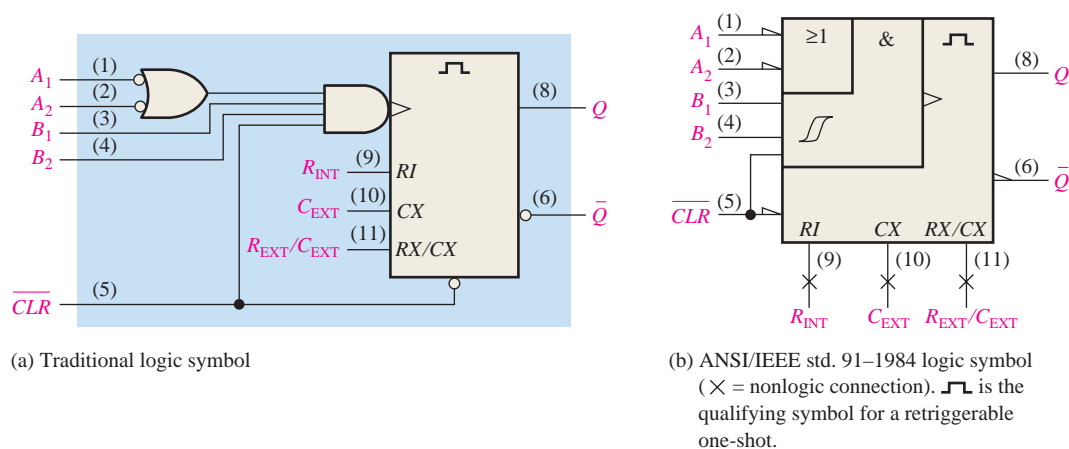

FIGURE 7–49 Logic symbol for the 74LS122 retriggerable one-shot.
A common requirement in digital systems is to store several bits of data from parallel lines simultaneously in a group of flip-flops. This operation is illustrated in Figure 7–35(a) using four flip-flops. Each of the four parallel data lines is connected to the D input of a flip-flop. The clock inputs of the flip-flops are connected together, so that each flip-flop is triggered by the same clock pulse. In this example, positive edge-triggered flip-flops are used, so the data on the D inputs are stored simultaneously by the flip-flops on the positive edge of the clock, as indicated in the timing diagram in Figure 7–35(b). Also, the asynchronous reset (R) inputs are connected to a common \overline{CLR} line, which initially resets all the flip-flops.
The 74121 is an example of a nonretriggerable IC one-shot. It has provisions for external R and C , as shown in Figure 7–47. The inputs labeled A_1 , A_2 , and B are gated trigger inputs. The R_{INT} input connects to a 2 k Ω internal timing resistor.
A typical pulse width of about 30 ns is produced when no external timing components are used and the internal timing resistor (R_{INT}) is connected to V_{CC} , as shown in Figure 7–48(a). The pulse width can be set anywhere between about 30 ns and 28 s by the use of external components. Figure 7–48(b) shows the configuration using the internal resistor (2 k Ω) and an external capacitor. Part (c) shows the configuration using an external resistor and an external capacitor. The output pulse width is set by the values of the resistor ($R_{INT} = 2 \text{ k}\Omega$, and R_{EXT} is selected) and the capacitor according to the following formula:
The 74LS122 is an example of a retriggerable IC one-shot with a clear input. It also has provisions for external R and C , as shown in Figure 7–49. The inputs labeled A_1 , A_2 , B_1 , and B_2 are the gated trigger inputs.
Figure 7–51 shows three 74LS122 one-shots connected as a sequential timer. This particular circuit produces a sequence of three 1 s pulses. The first one-shot is triggered by a switch closure or a low-frequency pulse input, producing a 1 s output pulse. When the first one-shot (OS 1) times out and the 1 s pulse goes LOW, the second one-shot (OS 2) is triggered, also producing a 1 s output pulse. When this second pulse goes LOW, the third one-shot (OS 3) is triggered and the third 1 s pulse is produced. The output timing is illustrated in the figure. Variations of this basic arrangement can be used to produce a variety of timed outputs.
A functional diagram showing the internal components of a 555 timer is shown in Figure 7–52. The comparators are devices whose outputs are HIGH when the voltage on the positive (+) input is greater than the voltage on the negative (–) input and LOW when the – input voltage is greater than the + input voltage. The voltage divider consisting of three 5 kΩ resistors provides a trigger level of $\frac{1}{3} V_{CC}$ and a threshold level of $\frac{2}{3} V_{CC}$. The control voltage input (pin 5) can be used to externally adjust the trigger and threshold levels to other values if necessary. When the normally HIGH trigger input momentarily goes below $\frac{1}{3} V_{CC}$, the output of comparator B switches from LOW to HIGH and sets the S-R latch, causing the output (pin 3) to go HIGH and turning the discharge transistor Q_1 off. The output will stay HIGH until the normally LOW threshold input goes above $\frac{2}{3} V_{CC}$ and causes the output of comparator A to switch from LOW to HIGH. This resets the latch, causing the output to go back LOW and turning the discharge transistor on. The external reset input can be used to reset the latch independent of the threshold circuit. The trigger and threshold inputs (pins 2 and 6) are controlled by external components connected to produce either monostable or astable action.